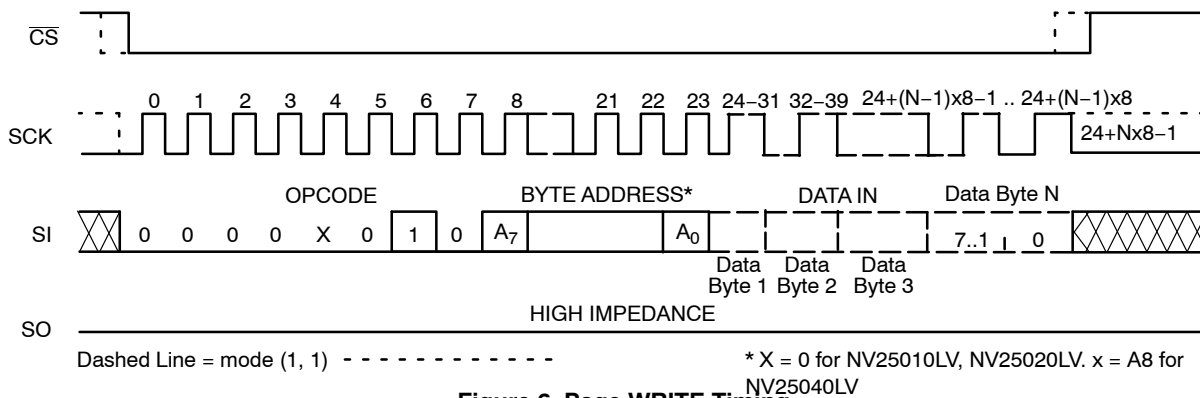

Figure 6. Page WRITE Timing
After sending the first data byte to the NV250x0, the host may continue sending data, up to a total of 16 bytes, according to timing shown in Figure 6. After each data byte, the lower order address bits are automatically incremented, while the higher order address bits (page address) remain unchanged. If during this process the end of page is exceeded, then loading will “roll over” to the first byte in the
The additional 16-byte Identification Page (IP) can be written with user data using the same Write commands sequence as used for Page Write to the main memory array (Figure 6). **The IPL bit from the Status Register must be set to 0 using the WRSR instruction, before attempting to write to the IP.** The address bits [A8:A4] are Don't Care and the [A3:A0] bits define the byte address within the Identification Page. In addition, the Byte Address must point to a location outside the protected area defined by the BP1, BP0 bits from the Status Register. When the full memory array is write protected (BP1, BP0 = 1,1), the write instruction to the IP is not accepted and not executed. Also, the write to the IP is not accepted if the LIP bit from the Status Register is set to 0 (the page is locked in Read-only mode).